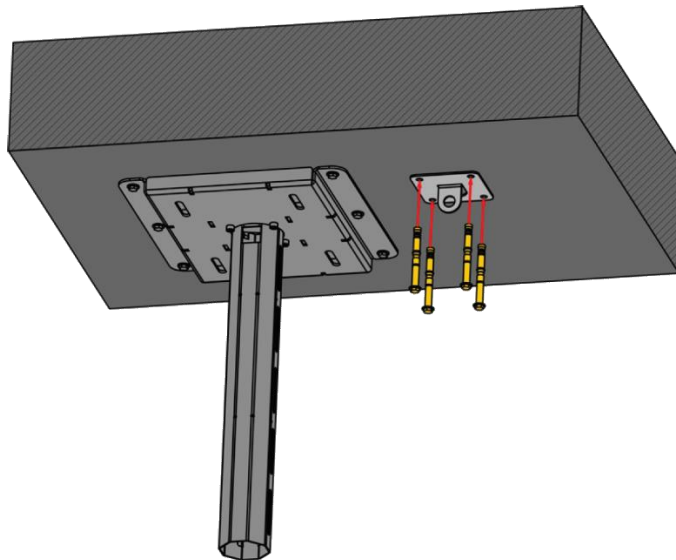

Figure 81: Step 3A-2
2. Fasten the safety anchor ⑦ near the ceiling plate ① by using the anchor bolts ⑪ (4 pcs.), as shown in **Figure 81**.